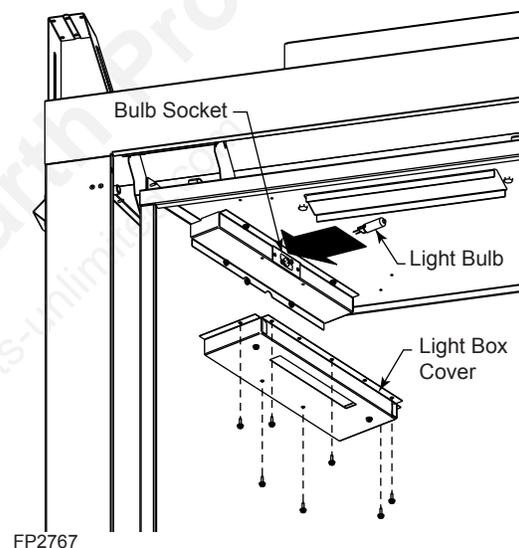

Figure 59 - Remove Light Box Cover
2. Remove the six (6) screws securing each light box and remove from unit. *Figure 59*
3. The light bulbs are included in the log packaging. install the light bulbs into bulb sockets as shown in *Figure 59*. **CAUTION:** Fingerprints or the transfer of oil from hands will reduce the lifespan of the bulbs. It is advisable to handle the light bulbs with a clean cloth.